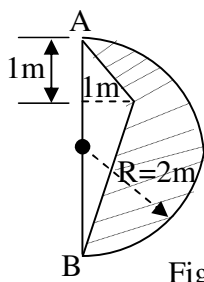

Fig.5(Q:5(a)&(b))
- Q.5** (a) Determine the centroid of the shaded area shown in fig.5. Also calculate the volume of the article generated by revolving the area about vertical axis 'AB'. **10**
(b) Calculate the Moment of inertia of the shaded area shown in fig.5 about the vertical axis 'AB'. **04**